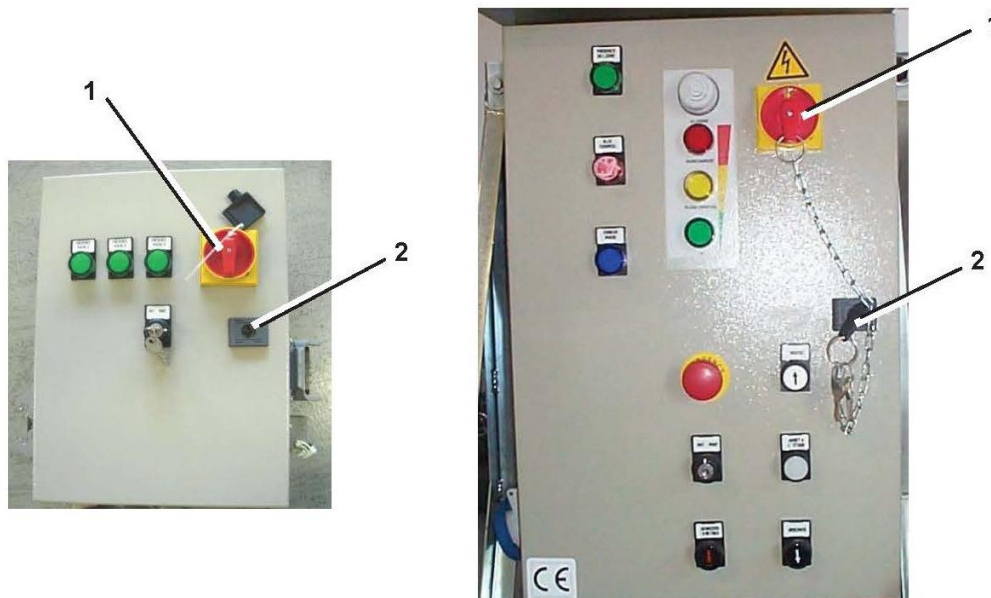
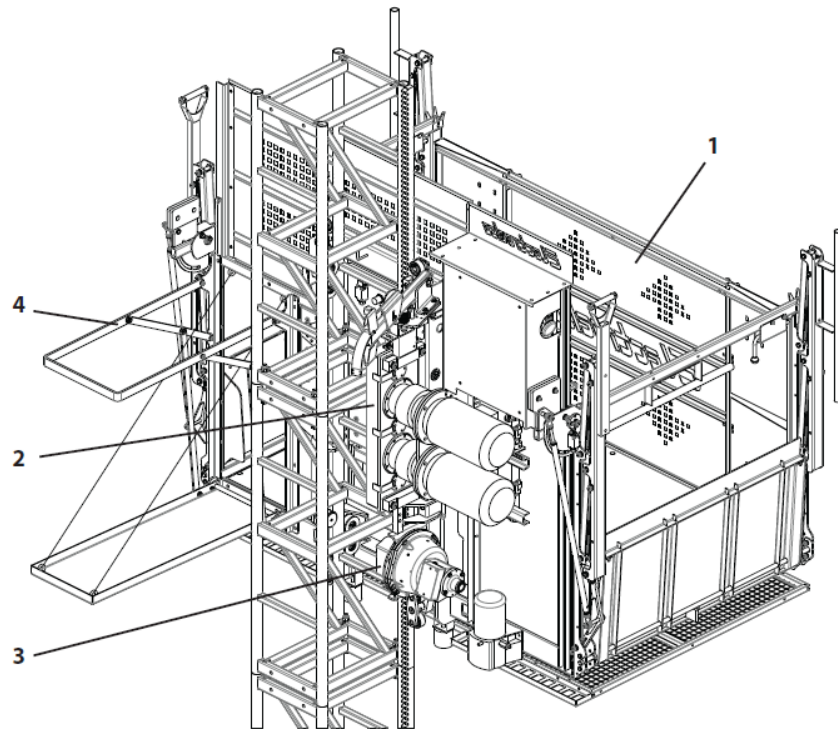

Figure 8.4
Figure 8.5
The movable guards which lock with a key or tool are applied to the panels used to close the electrical base control panel and that found onboard the machine. The locking slot (1) used for the base control panel is shown in figure 8.4, for the onboard control panel is shown in figure 8.5. The main switch (2) on the onboard control panel and be locked in the “OFF” position.